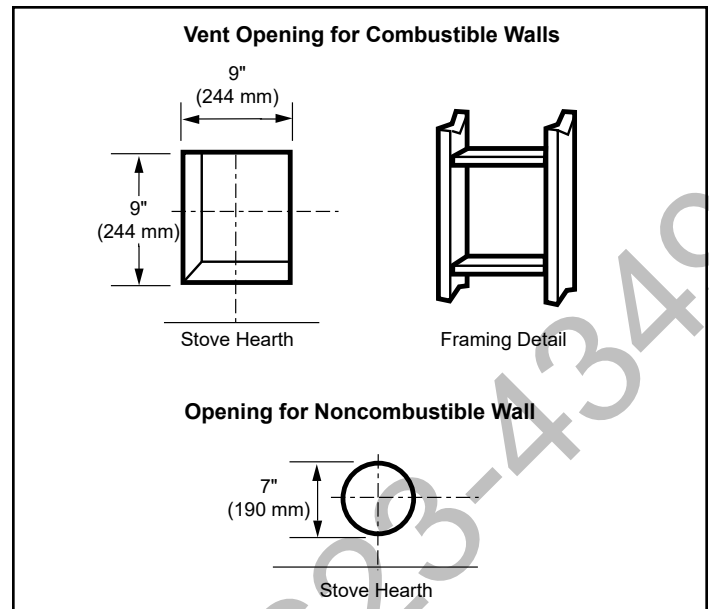

Figure 30 - Locate Vent Opening on Wall
1. Locate vent opening on the wall. It may be necessary to first position the stove and measure to obtain hole location. Depending on whether the wall is combustible or noncombustible, cut opening to size. Figure 30 (For combustible walls first frame in opening.) Combustible Walls: Cut a 9"H x 9"W (244 x 244 mm) hole through the exterior wall and frame as shown. Figure 30 Noncombustible Walls: Hole opening must be 7" (178 mm) in diameter.